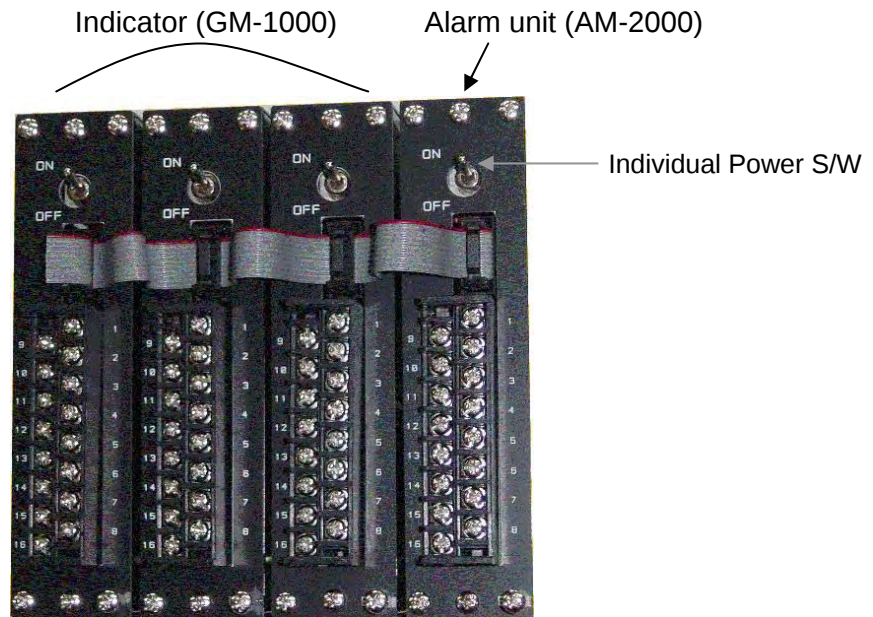

Fig. 6.3 Connection with a common alarm unit
- ◎ When a instrument is used for single case, you may connect with flat ribbon cable as shown in Fig. 6.3.